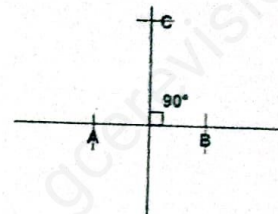

Figure 1
8. Lines that intersect each other at 90° as illustrated in figure 1 are